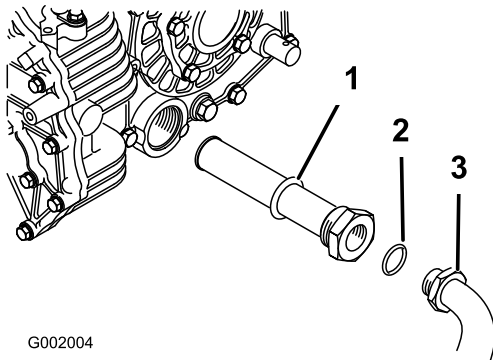

Figure 68
- Remove the hydraulic hose and 90 degrees fitting (Figure 68).